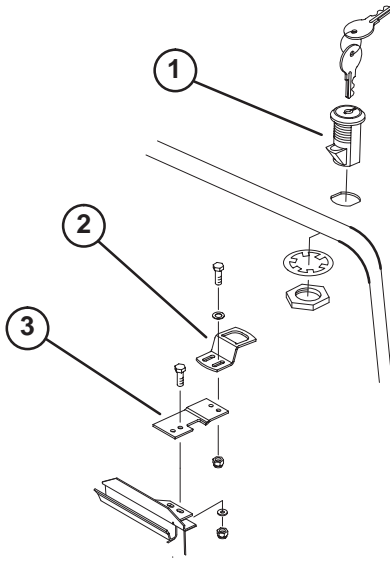

Figure 4
3. Mount locking latch to hood with lock washer and nut. Position switch with latch toward front of machine (Fig. 4).
4. Loosely mount latch strap to radiator support with 2 capscrews (1/4 x 3/4 inch), flat washers and locknuts (Fig. 4).
6. Rotate latch to locked and unlocked position with key. Remove key and store in memorable place (Fig. 4).